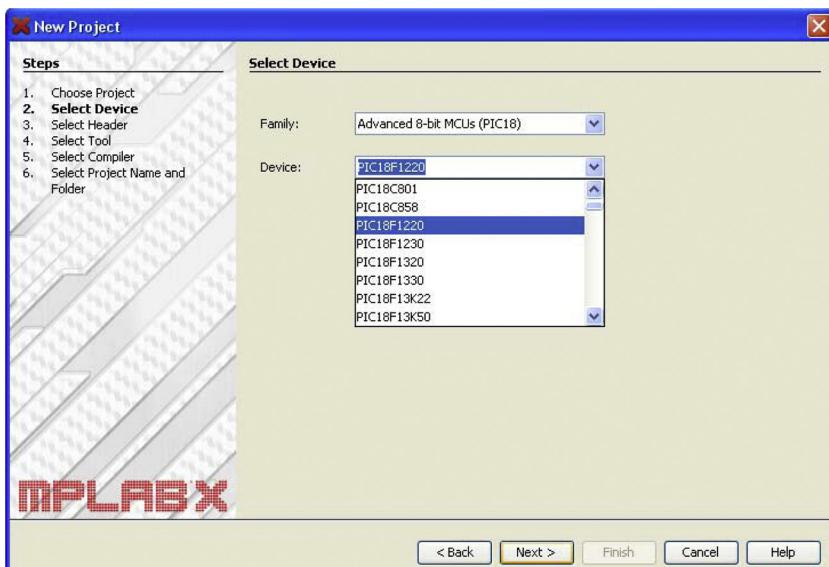

FIGURE 2.28 Selecting the device.
2. Select the device you want to use in your project, PIC18F1220. Click **Next** (Figure 2.28).